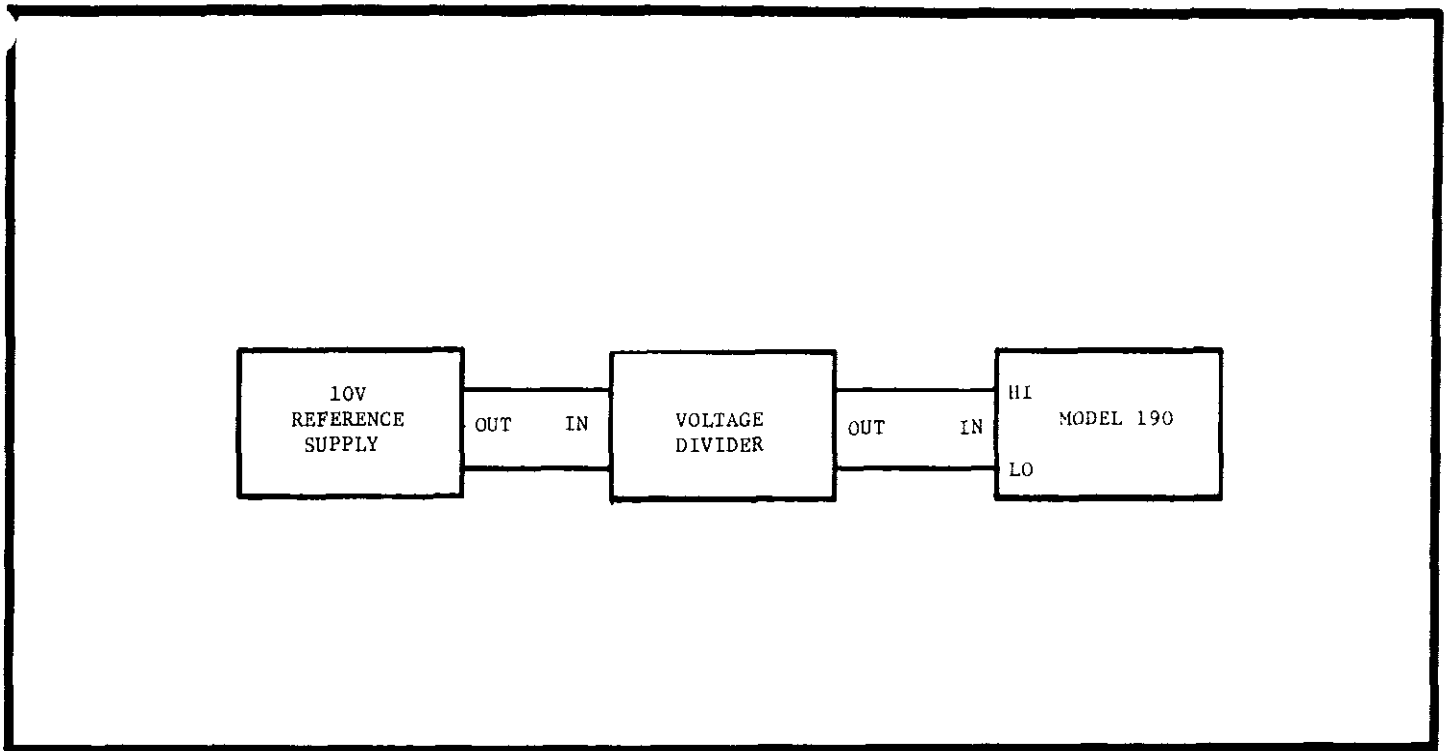

FIGURE 12. 1 VDC Voltage Calibration.
- 2) Set up test equipment as in Figure 12.
- a) Set up test equipment as in Figure 12.